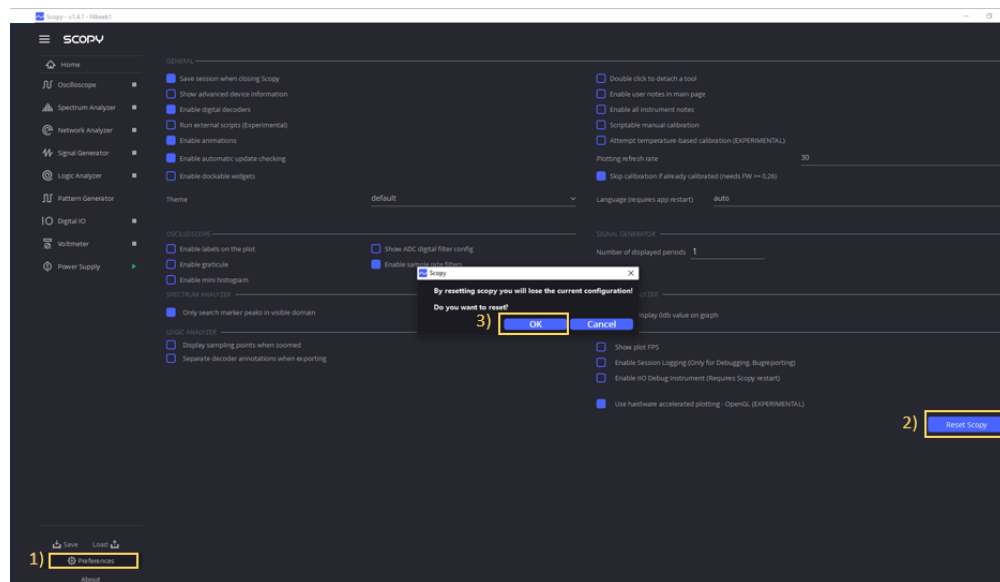

Figure 6. Configuring Scopy
- Open Scopy, click the Preferences Icon on the lower left panel, and select 'Reset Scopy'. Refer to the Figure 6.